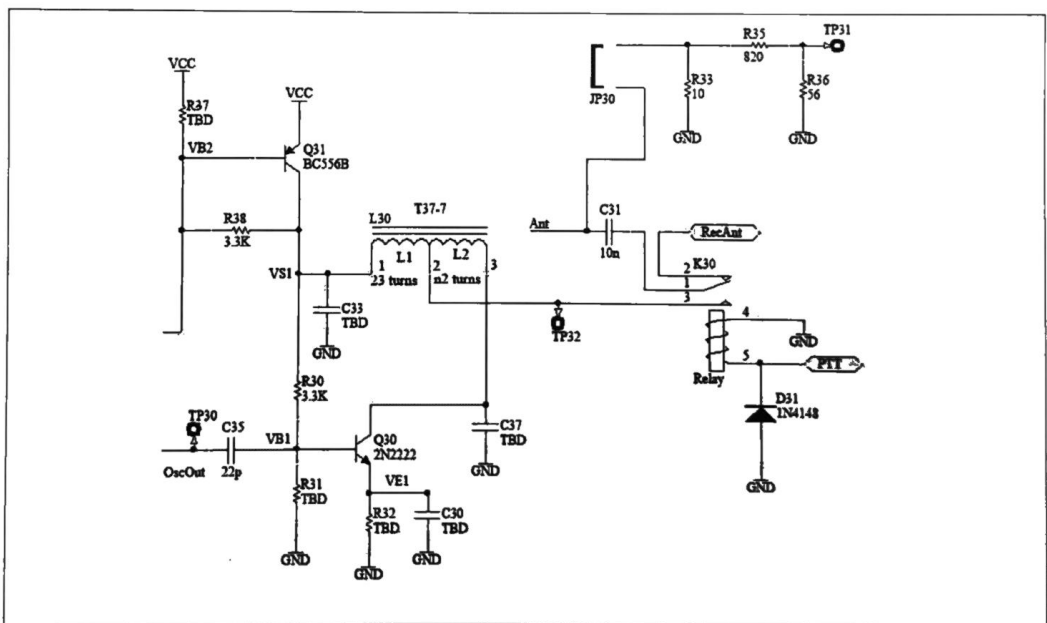

Figure 5: Schematic of transmitter amplifier.
- The tuned RF amplifier to be mounted is the transmitter (TX) amplifier operating at 27 MHz. This circuit is given in Fig. 5. L30 is a tapped inductance. The number of turns of L2 is determined in the preliminary work. It is supposed to transform the impedance of 10Ω to the optimum load resistance of the transistor. Cut 40 cm of 0.35 mm enameled wire to wind L1 and L2 on the T37-7 toroid. T37-7 is a core with an outer diameter of 0.37 inches or 9.4 mm (see p. 419). The windings should be single-layer without scrambles. Randomly wound coils do not perform well. The increased capacitance between the windings has a detrimental effect on the inductance performance. Count the turns of